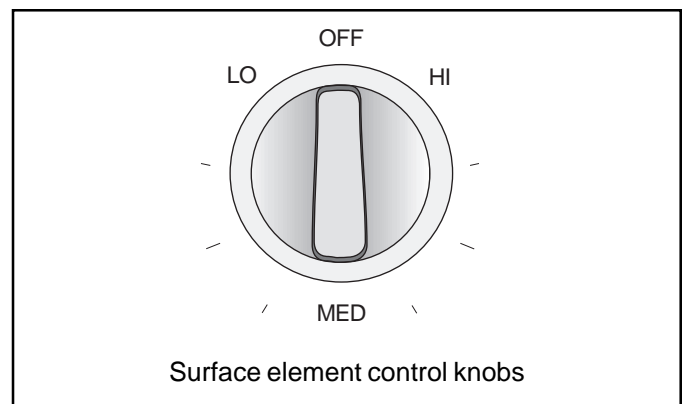

Figure 13
2. Push in and turn surface element control to desired setting. (Figure 13)